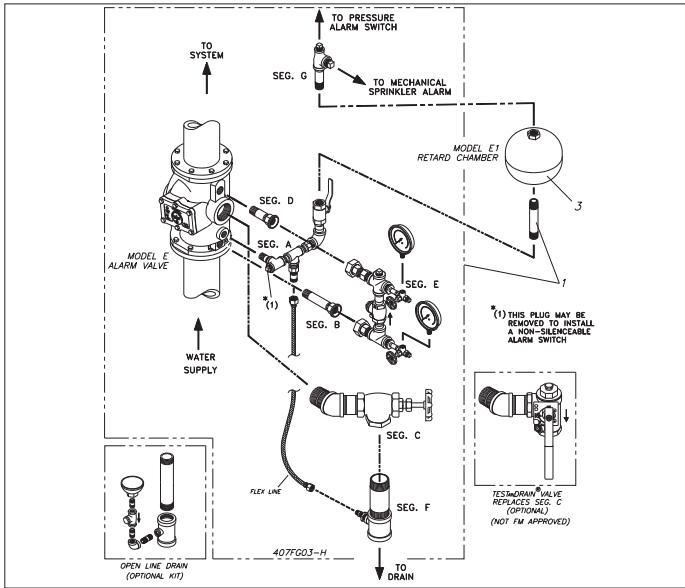
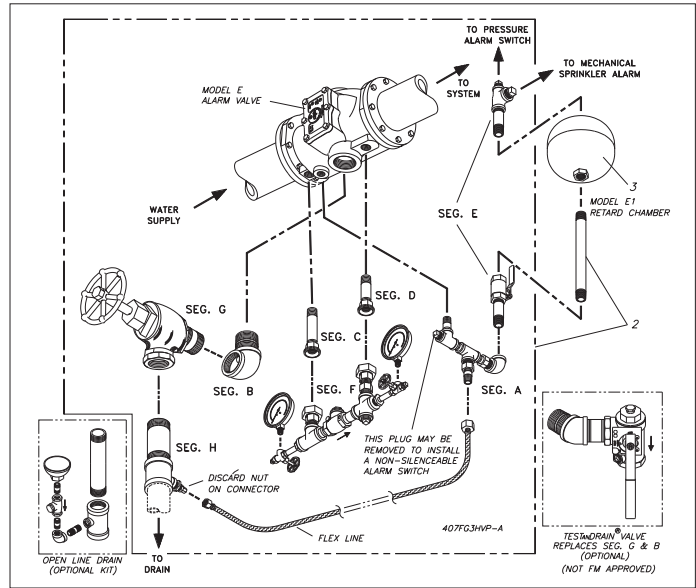

Fig. 3 Variable Pressure Vertical Installation
Fig. 5 Variable Pressure Horizontal Installation
7. Install Segment "F" leak tight by wrenching on the 2" (50mm) tee. Orientate the tube fitting towards the back of the alarm valve. Connect Item 26 (alarm line drain port) to Item 27 in the drain line using the flex tubing provided (Item 11). **Note:** the tubing should be free of kinks. **Note:** An open line drain kit segment is optional, to be purchased separately, as a replacement to seg. F (Fig. 3) & Seg. H (Fig.5).
Variable Pressure (Figs. 3 & 5)
- **Horizontal Installation (Figs. 5 & 6 & 8)**
Follow a sequence similar to that given above for vertical installation, and refer to Figs. 5 & 6 for illustration.
The movement of Clapper (4) on Hinge Pin (8) uncovers the groove in Seat (3) and allows water to flow through the groove into the Alarm Line Outlet and to the Alarm Line, Fig 5.